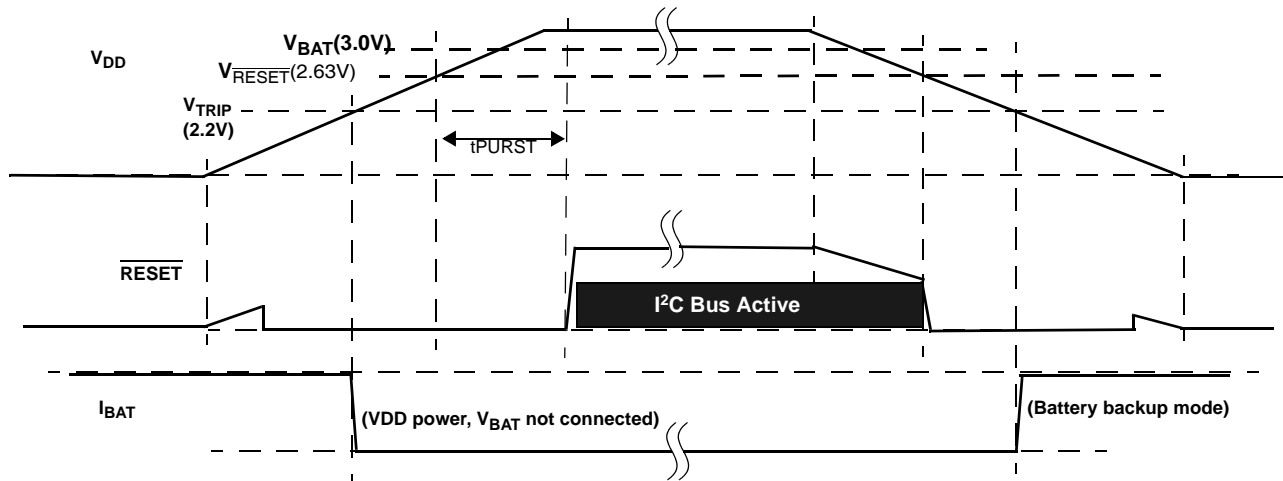

FIGURE 29. EXAMPLE RESET OPERATION IN MODE A OR C
- Mode A - In this mode selection bits indicate a low  $V_{DD}$  switchover combined with I2C operation in battery backup mode. In actuality the  $V_{DD}$  will go below  $V_{RESET}$  before switching to battery backup, which will disable I2C ANYTIME the device goes into battery backup mode. Regardless of the battery voltage, the I2C will work down to the  $V_{RESET}$  voltage (See Figure 29).
- Mode D - In this mode the selection bits indicate switchover to battery backup at  $V_{DD} < V_{BAT}$ , and no I2C communications in battery backup. This mode is unique in that there is I2C communication as long as  $V_{DD}$  is higher than  $V_{RESET}$  or  $V_{BAT}$ , whichever is greater. This mode is the safest for guaranteeing I2C communications only when there is a Valid  $V_{DD}$  (see Figure 29).